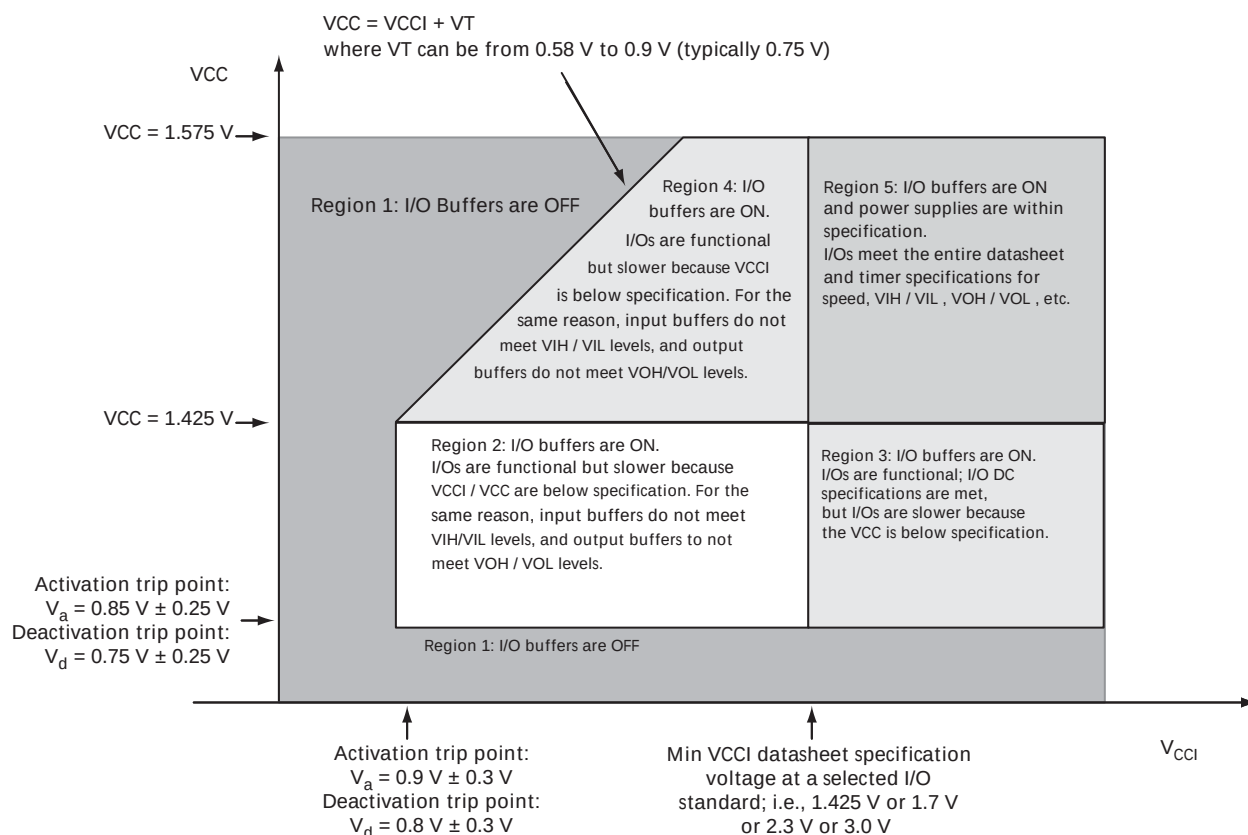
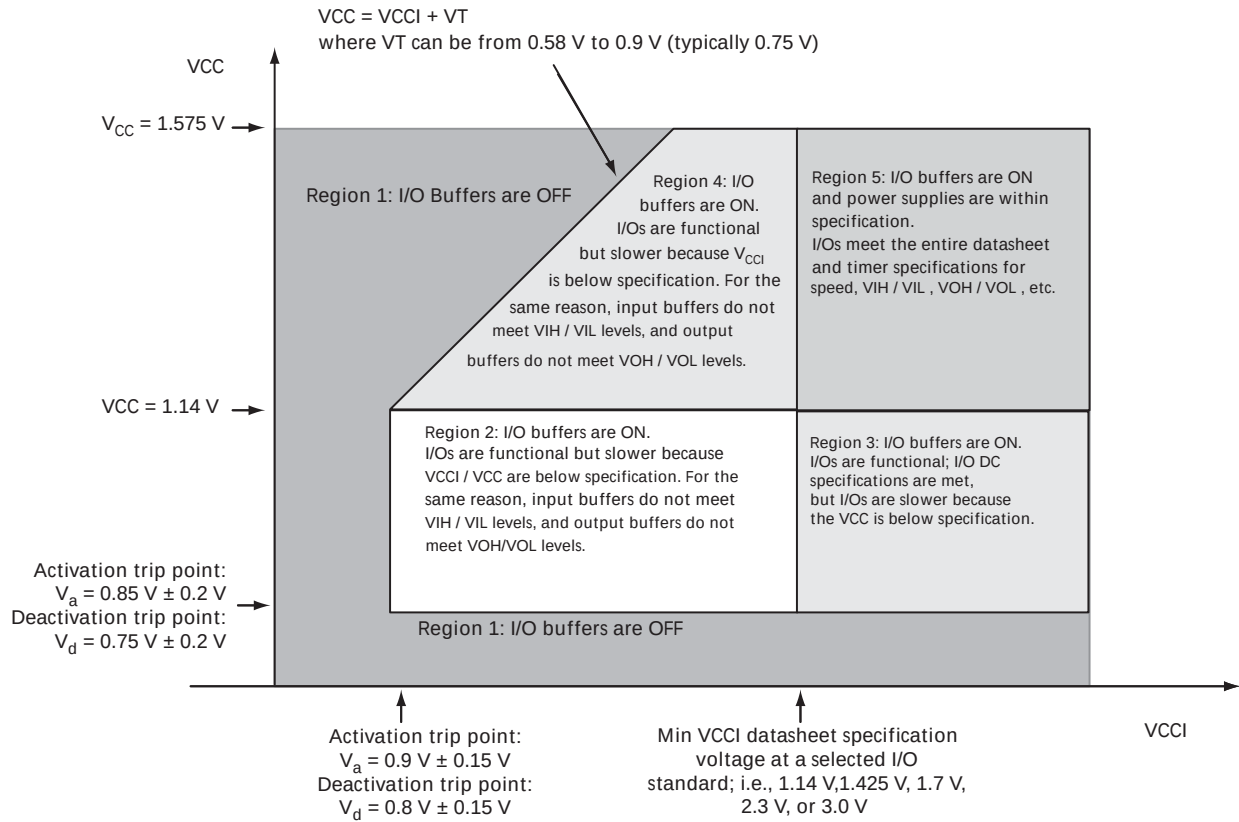

**Figure 2-1 • V5 Devices – I/O State as a Function of VCCI and VCC Voltage Levels**
**Figure 2-2 • V2 Devices – I/O State as a Function of  $V_{CCI}$  and  $V_{CC}$  Voltage Levels**
Sophisticated power-up management circuitry is designed into every IGLOO nano device. These circuits ensure easy transition from the powered-off state to the powered-up state of the device. The many different supplies can power up in any sequence with minimized current spikes or surges. In addition, the I/O will be in a known state through the power-up sequence. The basic principle is shown in Figure 2-1 on page 2-4.
1. VCC and VCCI are above the minimum specified trip points (Figure 2-1 and Figure 2-2 on page 2-5).
Microsemi recommends using monotonic power supplies or voltage regulators to ensure proper power-up behavior. Power ramp-up should be monotonic at least until VCC and VCCPLX exceed brownout activation levels (see Figure 2-1 and Figure 2-2 on page 2-5 for more details).